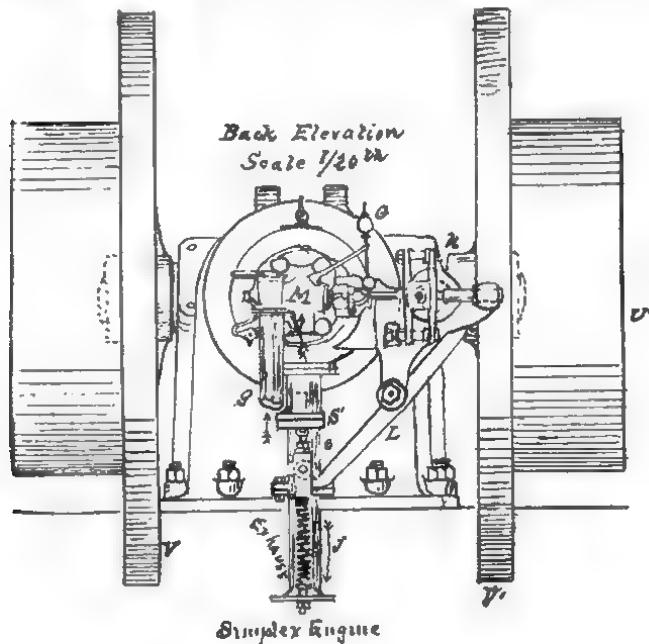
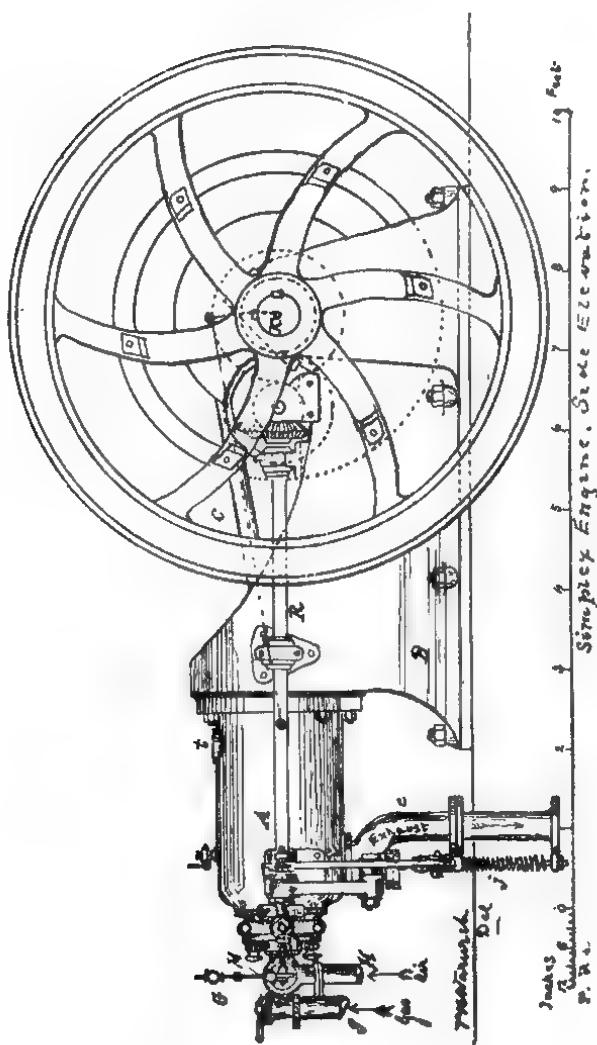
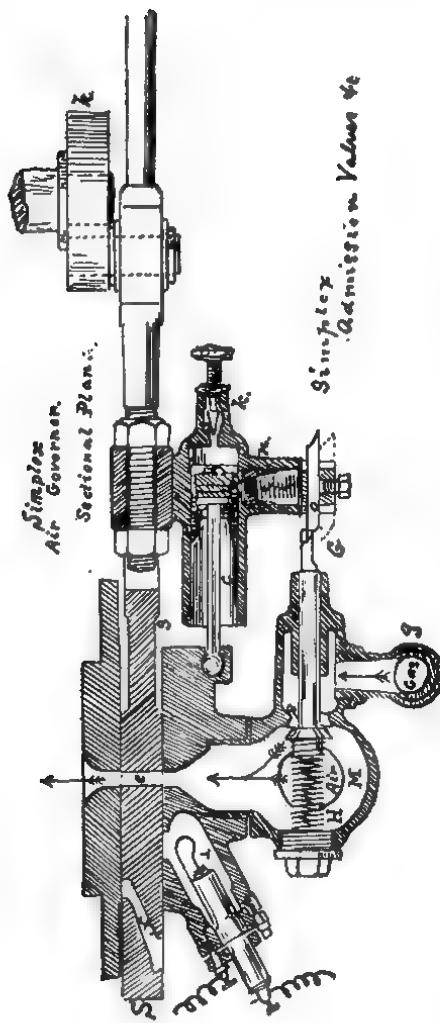
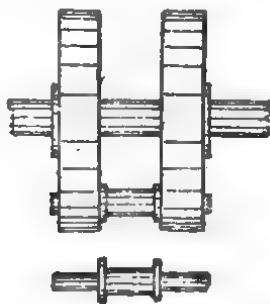

FIGURE 16.
FIGURE 17.
FIGURE 19.
FIGURE 20.—CRANK PIN.
*The Warwick Simplex Gas Engine* is shown in Figs. 16, 17, 18 and 19. Fig. 16 being the rear end elevation showing valves, etc. These are shown again in Fig. 19. As the principal feature of this engine is its extremely simple and sensitive governor. We will give a brief description as it can be adapted to any engine.
Fig. 19 is a sectional plan and shows the
spring H. The slide valve S has a 1 to 4 motion transmitted to it by the small crank K mounted on the valve rod R (Fig. 17). The admission and quantity of gas is controlled by the small air pump (Fig. 19) c being the cylinder in which the plunger O works. K is a
set for the air pump compresses air in the air chamber more rapidly than it can escape by the needle valve K, and the plunger N is forced out and the trip finger o takes the place shown by the dotted lines Fig. 19 and does *not* strike the valve stem G and the poppet valve S is held shut by spring H and an explosion missed.
port f, into the chamber r, where a continual stream of sparks is kept up by a small induction coil, or if preferred a platinum wire may be kept white hot by a battery or the regular hot tube may be used with good results. In Fig 17 A is the cylinder with its trunk piston at P. C the connecting rod and K the cranks. The method of building up the cranks by a crank pin being shown at Fig 20.